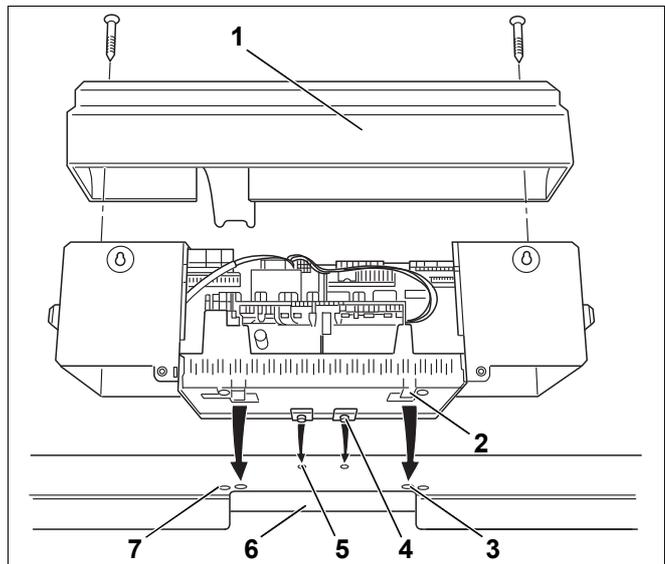
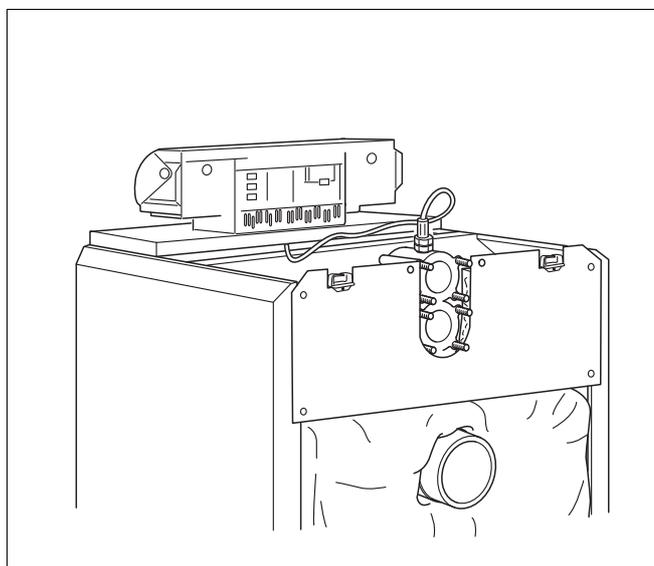

Fig. 43 Control unit installation
Fig. 48 Boiler with control unit installed
Fig. 43 shows the control unit and the front cover as viewed from the rear.
- Loosen both screws (Fig. 43, [1]) securing the terminal cover. Remove the terminal cover by pulling it upwards.
- Mount the control unit. Insert the control unit at the front of the boiler with the locating tabs (Fig. 43, [4]) into the oval apertures of the front boiler hood (Fig. 43, [5]). Pull the control unit forward and then pivot it back. Ensure that the resilient hooks (Fig. 43, [2]) engage at the rear into the rectangular apertures of the front boiler hood (Fig. 43, [3]).
- Secure the control unit base on the r.h. and l.h. side of the cable way (Fig. 43, [6]) in the front boiler hood with two self-tapping screws (Fig. 43, [7]).
- Fit the terminal cover (Fig. 43, [1]) with two self-tapping screws and secure on the control unit base (Fig. 48).